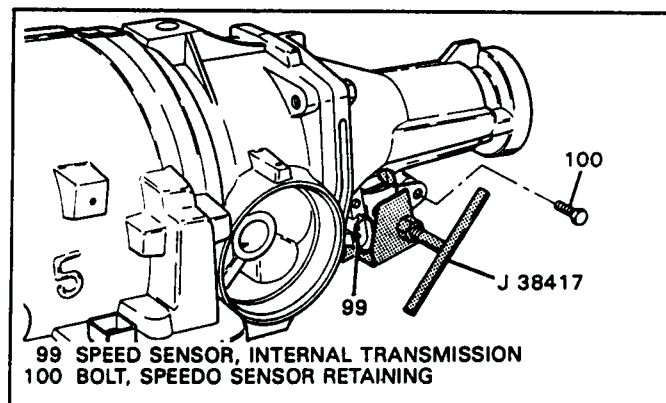

Figure 48
1. Remove the output speed sensor from extension housing bore, using tool J-38417, as shown in Figure 48. (Used on some models only).